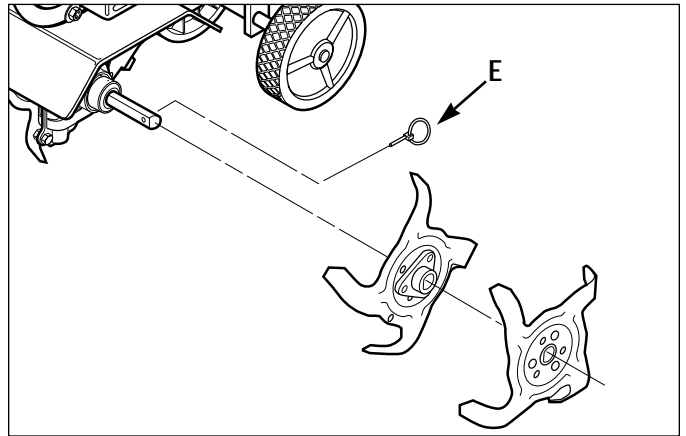

Figure 3: Remove ring lock pins and tines from both sides of the tine shaft. Keep left and right-side tines separated and marked for easier reinstallation.
- Flip open the ring on the two ring lock pins (E, Figures 3 and 4) and remove the ring lock pin on each tine shaft. **IMPORTANT:** The ring lock pin is under spring tension – wear gloves to protect your fingers when removing or replacing the ring lock pin.
- It is important for proper tilling performance that the tine sections be later reinstalled in their original positions. Therefore, mark the position of each tine section (Left-Outer, Left-Inner, etc.) before removing them. Refer to Figures 3 and 12 for tine position information.